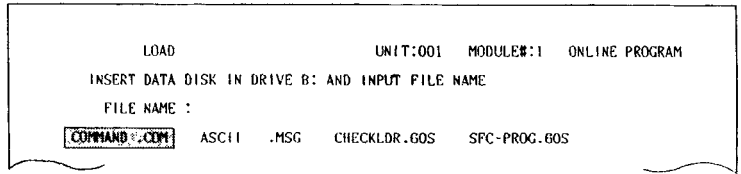
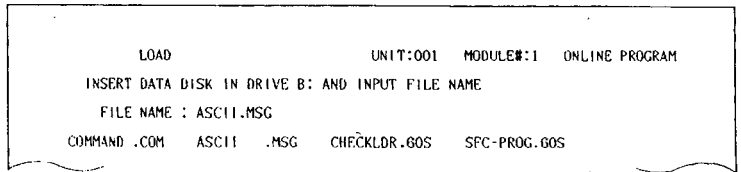

Fig. 7.42
Fig. 7.43
2. Depressing **DIRECTORY** in Fig. 7.38 displays file names as shown in Fig. 7.42. In file name column, cursor appears. For file selection, place the cursor in the file desired and depress **ENTER** key. Fig. 7.43 shows file name input.